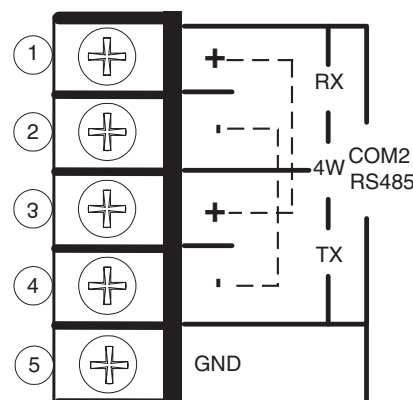

Figure 5-4 RS-485 4-Wire Loopback Configuration
- The RS-485 terminals have been configured for Loopback testing (See Figure 5-4.)